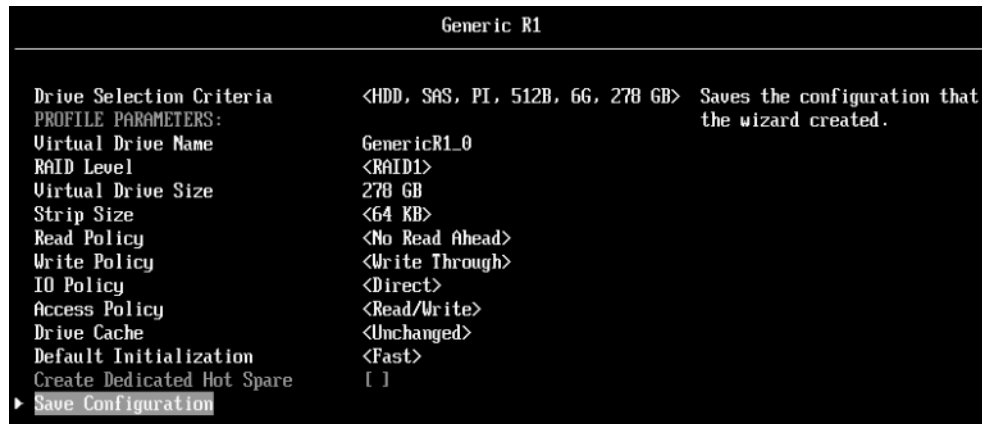

Figure 5-30 RAID 1 array panel
11. Select the wanted RAID level for your drives. For this example, we selected RAID 1, as shown in Figure 5-30.